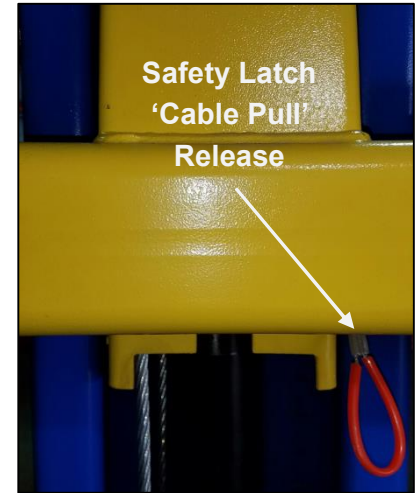

Fig. 20
2. To lower the lift, both carriage's safety latch releases must be manually pulled down to be released to lower lift (**Fig.20**).